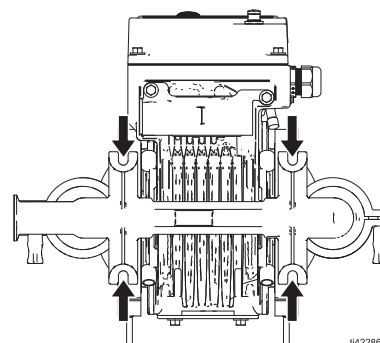

FIG. 6: Mounting Holes
Mount the pump to the mounting surface using fasteners through each hole of the feet. See FIG. 6.
3. For all mountings, be sure the pump is secured with fasteners through the mounting holes on the base. See FIG. 6. See **Dimensions**, starting on page 58.
**NOTE:** For ease of operation and service, mount the pump so the control knob (K), LED indicator (CC), I/O port/cable (BB), and fluid inlet and outlet ports (B, C) are easily accessible.
To avoid pump damage, mount the pump to the mounting surface using fasteners through each hole of the feet. See FIG. 6.